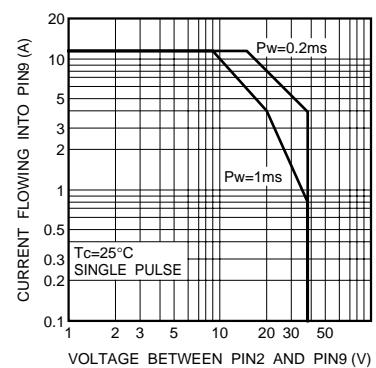

Fig.12 Safety operation range
- (1) The output current should be reduced according to an increase in the input voltage or ambient temperature. Use the modules within the derating curve range.
- (2) Pins 5 and 7 are not connected.
- (3) No circuit is installed in the modules to protect against over output currents. Take physical safety measures such as fusing if short-circuit loading is probable.
- (4) A large rush current may flow in the module when the input voltage is applied or the output ON / OFF is controlled with pin 4 without a capacitor such as C1 in application 4. Operating within the safe operation ranges shown in Figs.12, 15, and 18. The safe operation range is determined by the safe operation range of the internal switching transistor. The amount of rush current depends on the output impedance of the input power supply and capacitors connected to the module outputs. The pulse load on the internal switching transistor at the start of operation can be reduced by using the protection circuit of application 1 or the slow start circuit of application 4.